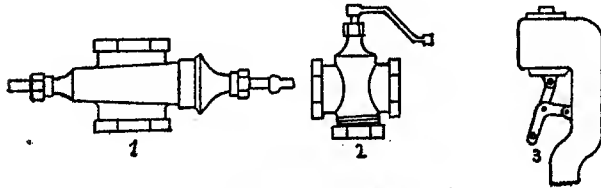

FIG. 48.—THROTTLES.
**Throttle.**—The three distinct types of throttle valves which are in the most common use today are illustrated in Fig. 48; while these types may vary with different